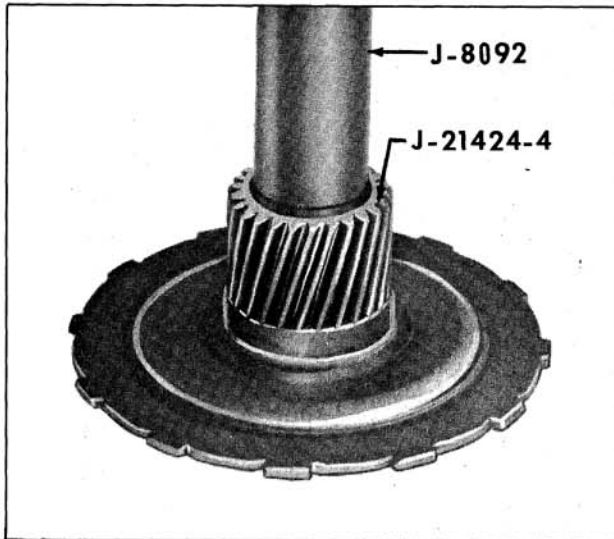

Fig. 6-442 Installing Low Sun Gear and Flange Assembly Bushing
2. Install Tool J-21424-4 into low sun gear. Using Drive Handle J-8092, press bushing into low sun gear until bushing installer is flush with top of low sun gear. (Fig. 6-442)